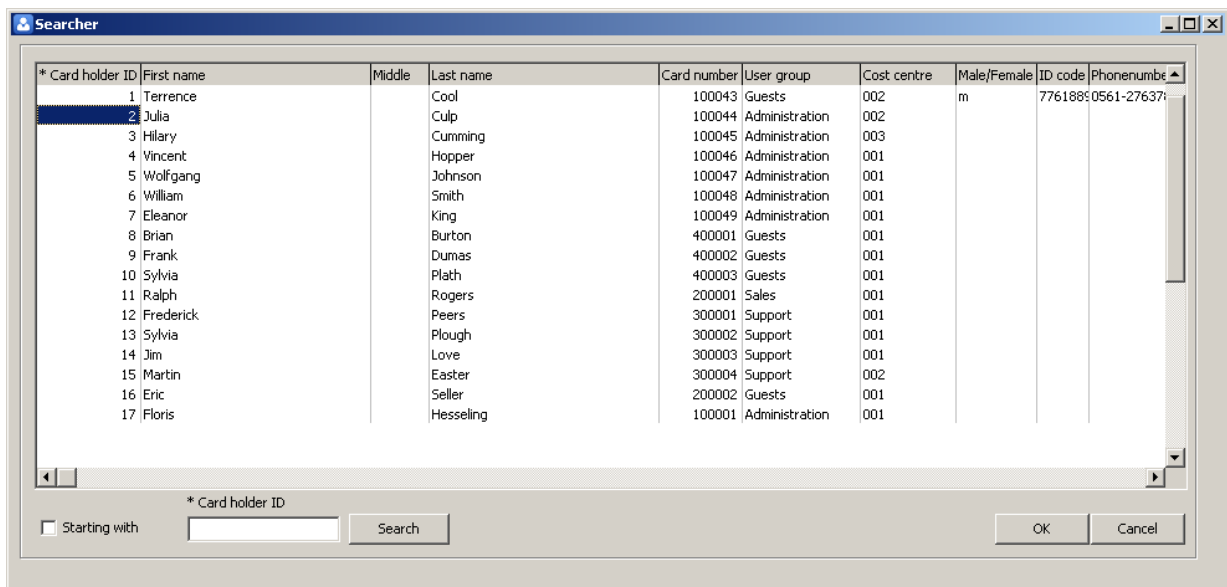

Figure 2-5 The card holders search dialog screen
1. Click **Search**. You will see the search dialog screen (Figure 2-5).